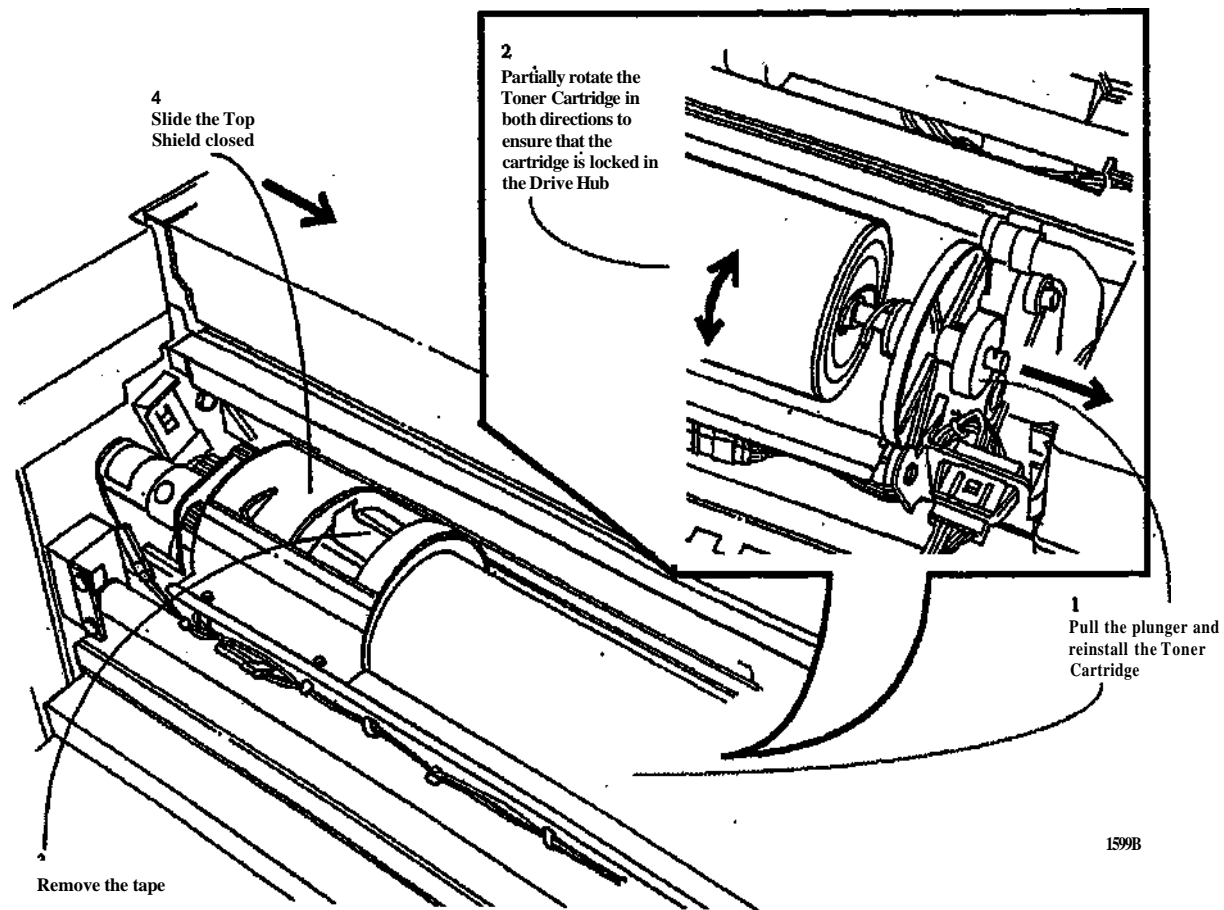

Figure 4. Reinstalling the Toner Cartridge
2. (Figure 4): Reinstall the Toner Cartridge.